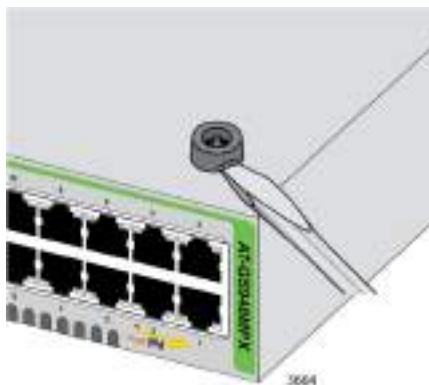

Figure 18. Removing the Rubber Feet
2. Using a flat-head screwdriver, pry the rubber feet from the bottom of the switch. See Figure 18.